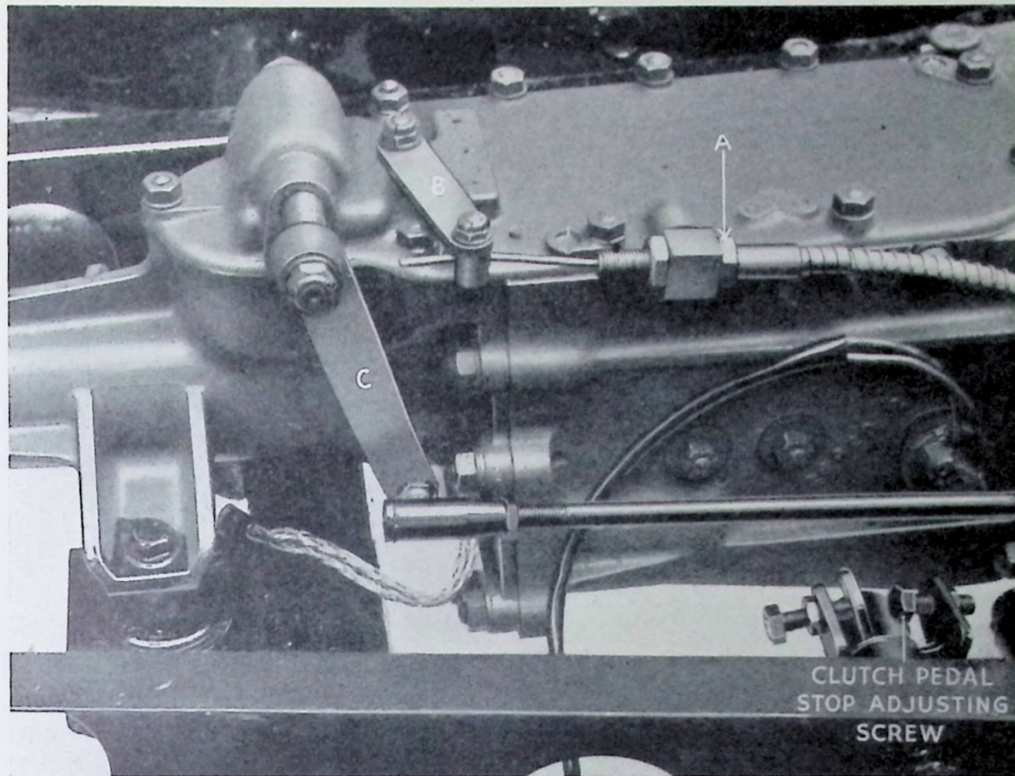

Fig. 4. Arrangement of Gear Change Speed Levers when connecting controls.
- (1) See that the forward nut, A, Fig. 4, on the gearbox end of the control cable assembly is screwed right down. Pass the cable and the threaded end of the cover through the cable support, fit the second or rear nut, and tighten securely.
- (2) Thread the cable through the swivel pin, of the operating lever, B, Fig. 4, push the lever forward to the full extent of the travel, then place the change speed lever,
- (3) Place the change speed lever C on the gearbox in reverse as shown in Fig. 4, and connect up the control rod ball joint to it. If this cannot be done without altering the position of the levers, lengthen or shorten the control assembly suitably until this condition can be obtained.
- (4) Check that it is possible to obtain any gear readily. If unable to do so, recheck the foregoing operations to ensure they have been carried out correctly. If difficulty still persists examine the mechanism as detailed in Service BU4.
- (5) The end of the cover of the operating cable attached to the support bracket on the column, should stand proud of the locknut by approximately $\frac{3}{4}$ " (19 mm.). The screwed end of the inner cable should be attached to the swivel pin on the selector lever, with the lower lock nut screwed down to the full extent. This lower locknut should not foul the